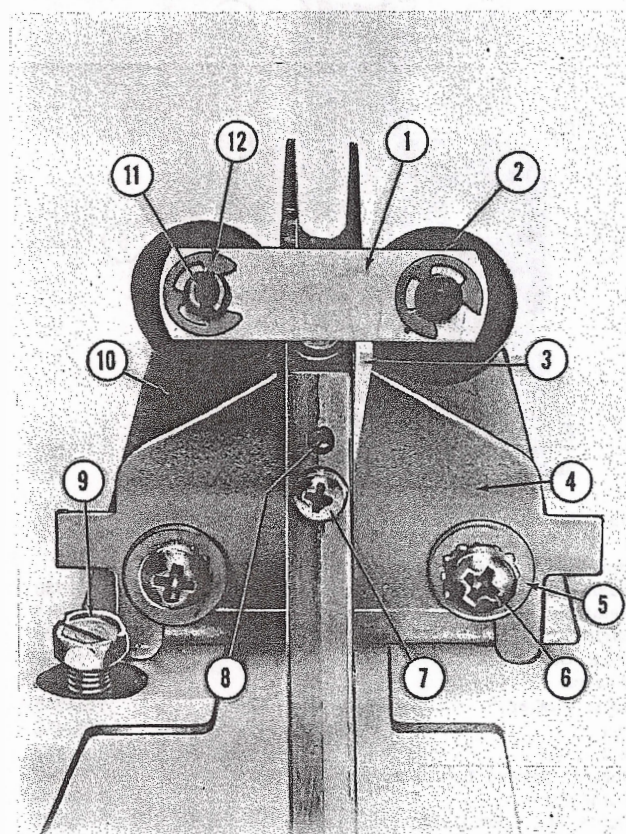
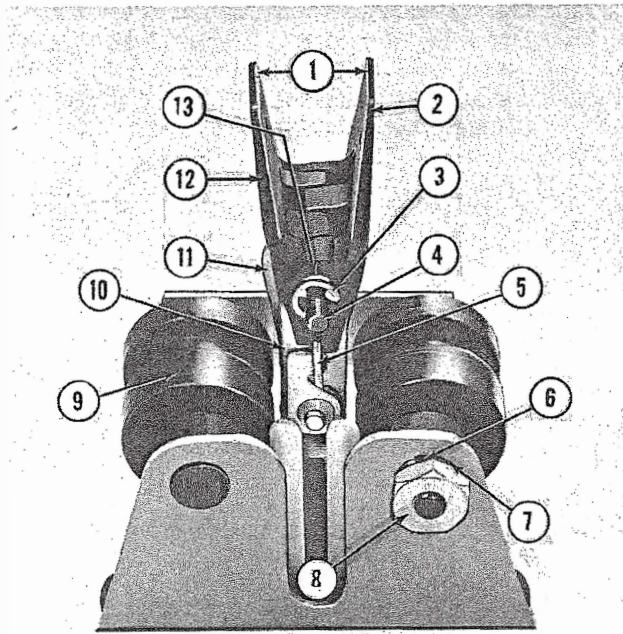

Fig. 47. BRACKET AND ROLLER ASSEMBLY, LIFT ARM GUIDE, 2400
Fig. 48. BRACKET AND ROLLER ASSEMBLY, LIFT ARM GUIDE, 2400
(1) The roller guides for the record lift arm spring loaded guide tips are mounted on top of the chassis mounting plate. When the arms are down the guide tips are held straight in line and centered between the guide rollers. The adjustable bearing (Fig. 47, Item 11) should be set to provide .003" to .006" clearance between the guide tips and the rollers. Advance the mechanism in its cycle
and allow the lift arm to travel to a position where the guide tips are out of the record separators. Stop the mechanism at this point and measure the opening between the guide tips (Fig. 48, Item 1). The inside dimension should be 7/16".
The adjustable plate (Fig. 47, Item 4) should be located with the slot centered between the guide rollers. Advance the mechanism in its cycle until the lift arms are free to raise and lower. The guide tip bearing pin must enter and leave the slotted guide plate (Item 4) with no bind and the tips should stand straight entering the record holder. The guide tips spread evenly as they leave the guide rollers. Should they run off to one side they may be straightened by loosening the retaining screw (Item 7) and moving stop bracket (Fig. 48, Item 5).